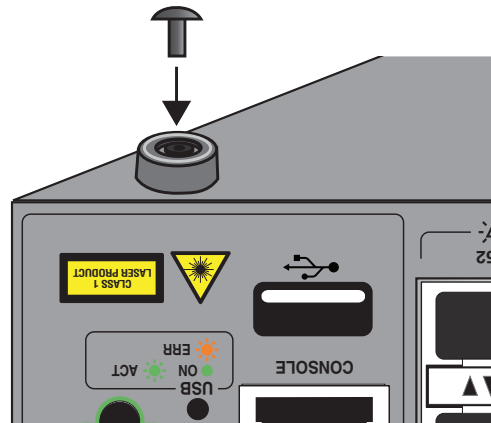

Figure 29. Inserting the Rivet into the Bumper Foot
4. Insert the rivet to secure the bumper foot to the base. Refer to Figure 29.